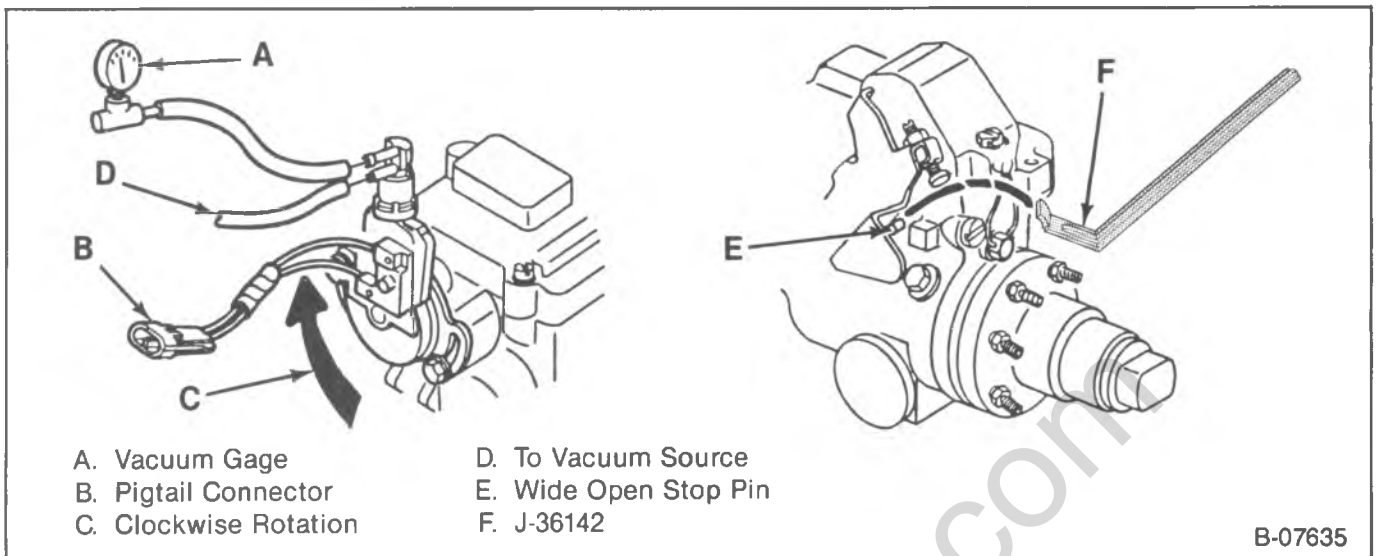

Figure 14—Vacuum Regulator Valve Adjustment
3. Attach a vacuum gage to the top vacuum port (figure 14).